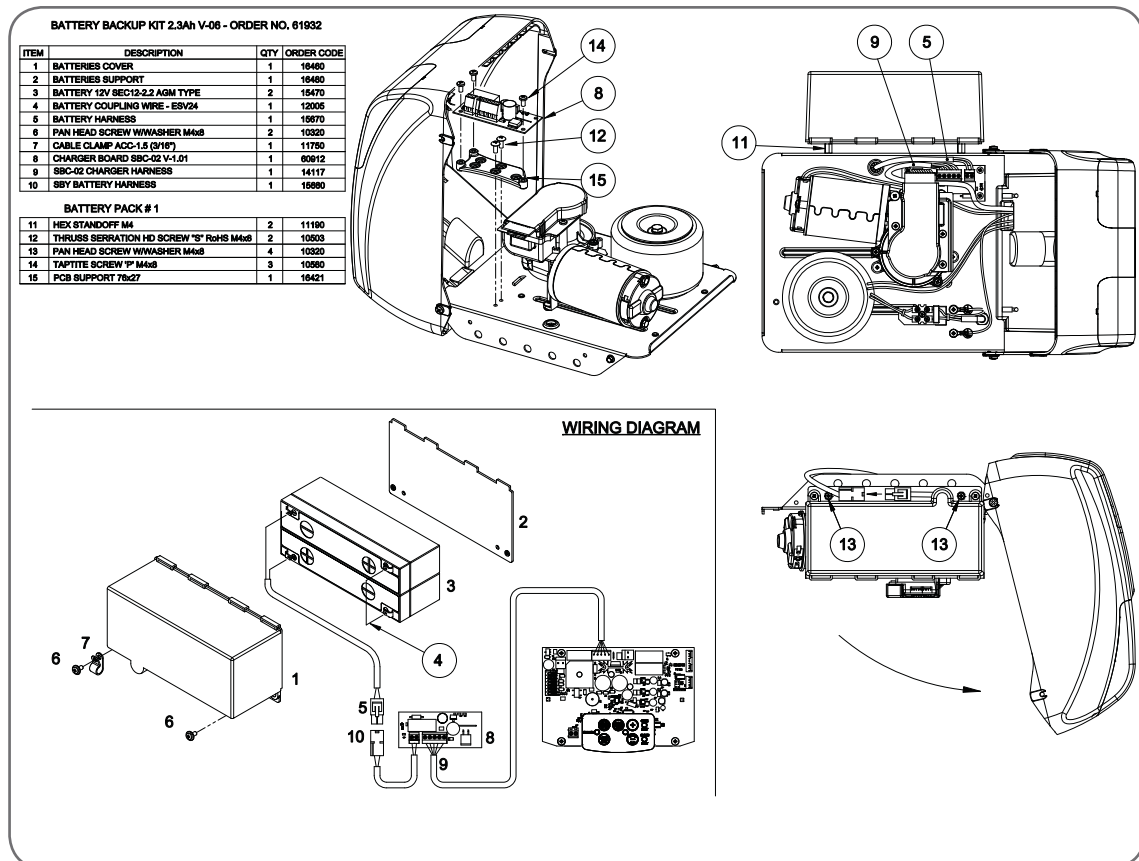

Fig. 48
2. Remove screws and swing open the cover (**Fig 48**).
3. Mount the PCB support with two screws item # 12. Secure the SBC0-2 Charger Board onto the PCB support with three (3) screws item #14.
6. Mount Battery Backup and secure with item 11 and 13.
7. Connect item 5 and 10 together (**Fig 48**).